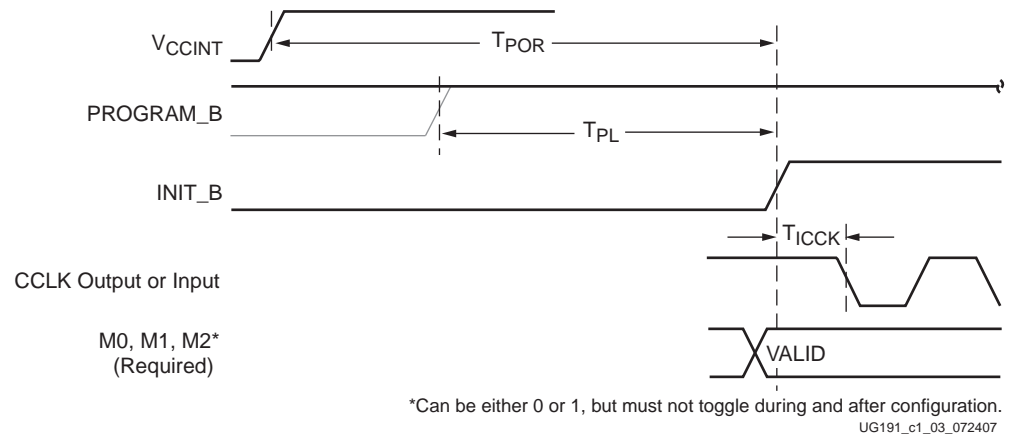

Figure 1-4: Device Power-Up Timing
Figure 1-4 shows the power-up waveforms.
Configuration memory is cleared sequentially any time the device is powered up, after the PROGRAM_B pin is pulsed Low, after the JTAG JPROGRAM instruction or the IPROG command is used, or during a fallback retry configuration sequence. During this time, I/Os are placed in a High-Z state except for the dedicated Configuration and JTAG pins. INIT_B is internally driven Low during initialization, then released after T_{POR} (Figure 1-4) for the power-up case, and T_{PL} for other cases. If the INIT_B pin is held Low externally, the device waits at this point in the initialization process until the pin is released.
- The first is to hold the INIT_B pin Low during initialization (Figure 1-4). When INIT_B has gone High, configuration cannot be delayed by subsequently pulling INIT_B Low.